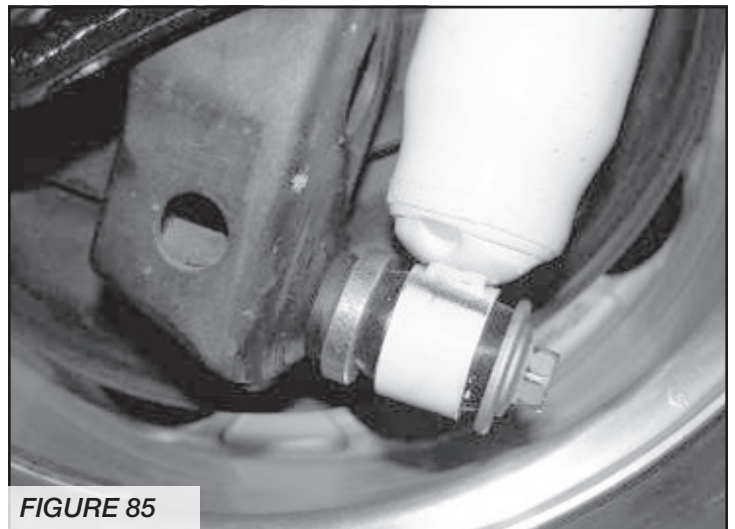

FIGURE 85
54. Install the new Fabtech shocks FTS7237, FTS6017 or FTS810542 and FT83239 Shock Spacer with the factory hardware and supplied shock sleeve. **NOTE: If installing FTS7237 Performance shock, remove the lower bushing and install the supplied FT83267 (bushing).** Install the spacer onto the lower shock mount and follow with the shock and factory hardware. Torque upper and lower bolts to 83 lbs. **SEE FIGURE 85**